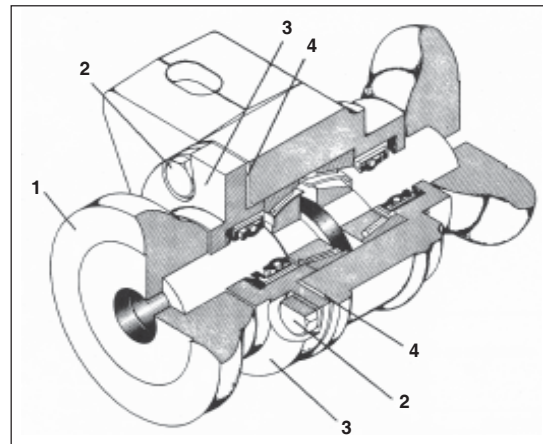

FIGURE 19
BEARING SETTING (FIGURE 19)
- Remove the washer item 1, FIGURE 19.
- Loosen the screws item 2 and remove the cover item 3.
- Remove 1 or 2 joints item 4, from the bearing cover. Place the cover again and retighten it.